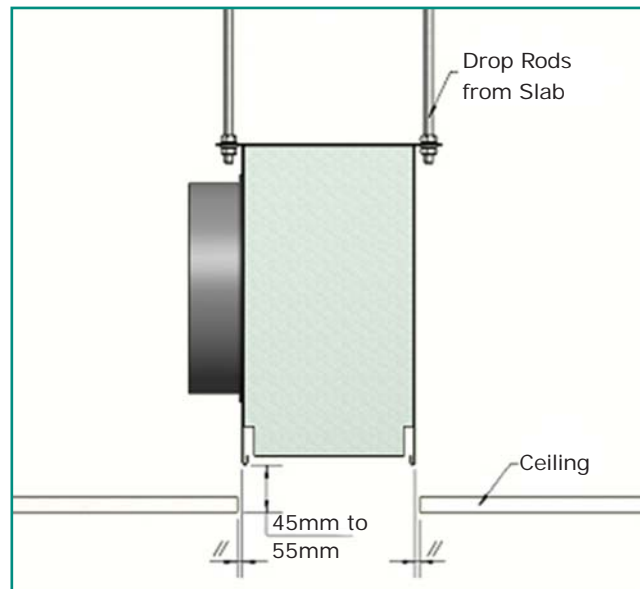

Figure 1- Plenum installation detail
- 3- Check that the plenum box is level and aligned with the ceiling opening, ensuring that the distance from the bottom of the hem to the ceiling face is within the 45 to 55mm range (see figure 1). When this has been achieved, tighten the locknuts to secure the plenum position.